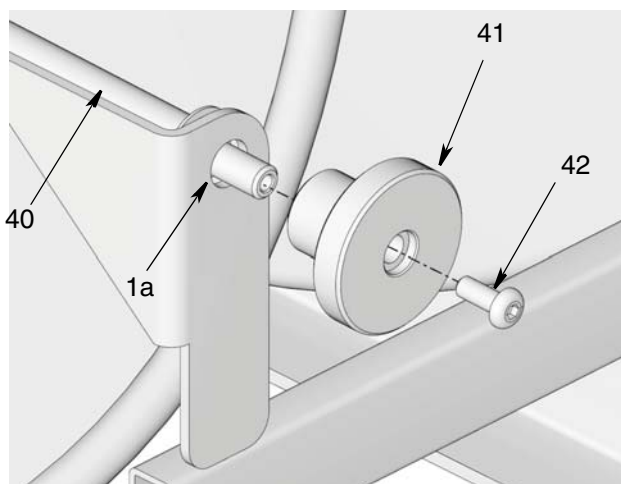
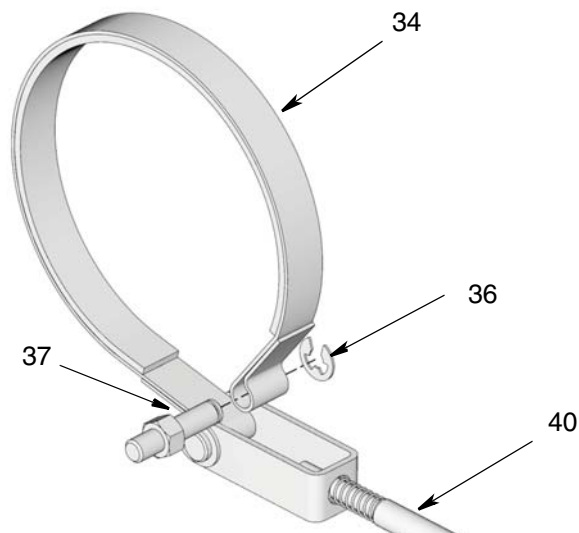

FIG. 12
FIG. 14
2. Turn knob (41) counter-clockwise to remove brake tension.
3. Loosen and remove screw (42) from end of knob (41) (FIG. 12).
4. Remove knob (41) from end of rod (40) (FIG. 12).
5. Loosen and remove nut (24) and pull band clip (34a) off anchor pin (37).
6. Remove clip (36) from anchor pin (37) (FIG. 14).
7. Remove (37) from band (34) (FIG. 14).
8. Remove band (34) from brake hub (12).
9. Pull end of rod (40) out of frame (1a) (FIG. 12).
14. Feed end of rod (40) through hole (27b) (FIG. 12).
15. Reinstall knob (41) over end of rod (40). Install screw (42). Tighten screw securely to hold knob in place (FIG. 12).